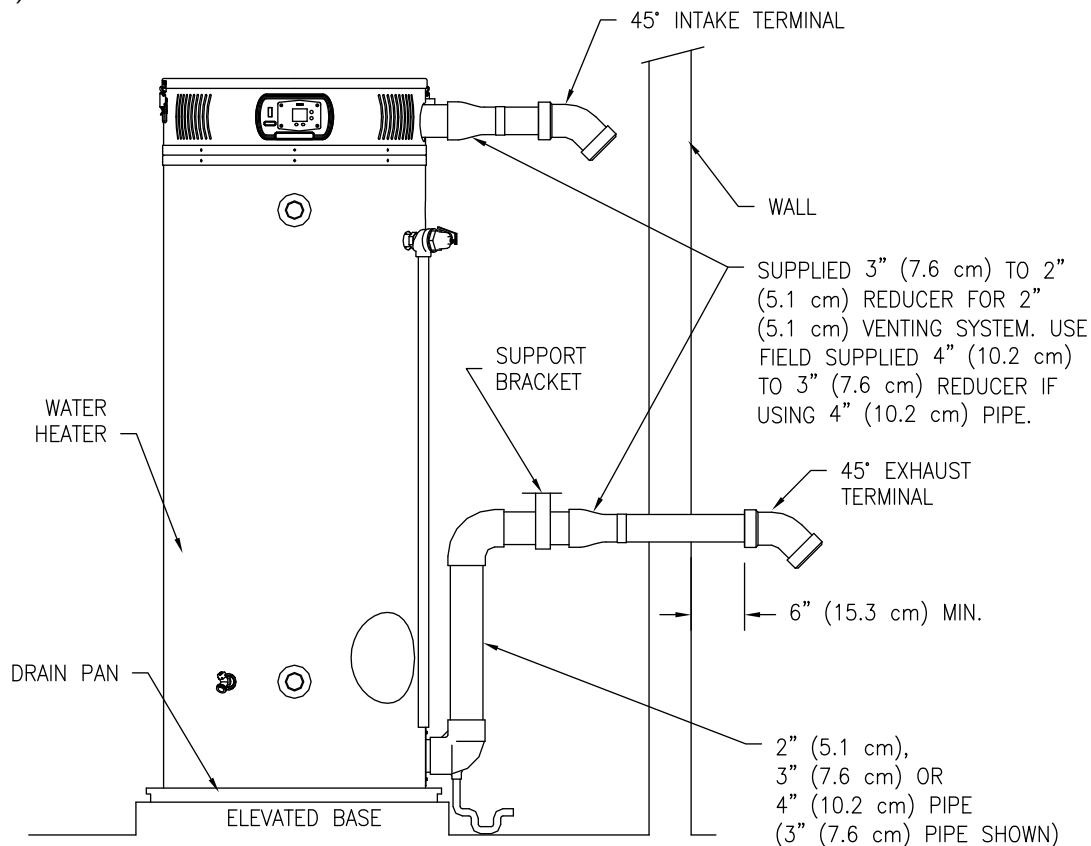

Figure 16. Typical Horizontal Power Vent System
2. Use the proper cement or sealant to secure the exhaust vent terminal provided with the water heater to the pipes. The distance between the back edge of the exhaust vent terminal and the exterior wall (see Figure 16) must be 6 inches (15.3 cm). Use the proper cement and assembly procedures to secure the vent connector joints between the terminal and the blower outlet. Provide support brackets for every 3 feet (.9 m) of horizontal vent.